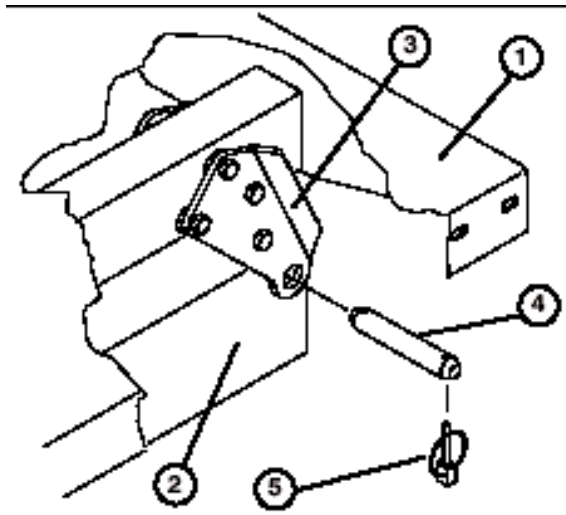

Figure 9
2. Remove the lynch pins from the outer ends of the cylinder rod clevis pins (Fig. 9).